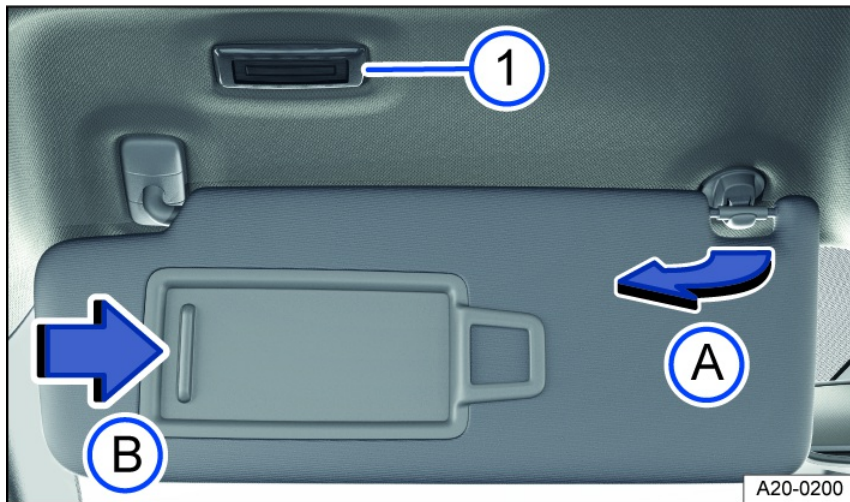

Fig. 89 In the front of the headliner: sun visor.
- Remove from the holder and tilt toward the door *fig. 89*.
When the sun visor is folded down, there is a vanity mirror located behind a cover. The lights *fig. 89* turn on when the cover *fig. 89* slides open.